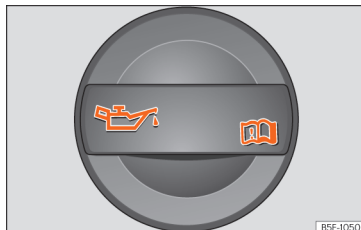

Fig. 182 In the engine compartment: engine oil filler cap.
- The engine oil filler neck can be recognised by the symbol on the cap »» Fig. 182 and the dipstick by its coloured handle.